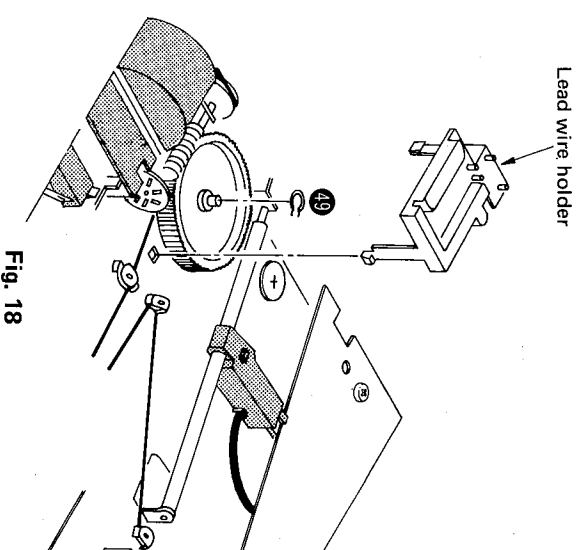

Fig. 18
2. Remove the lead wire holder. (See Fig. 18)
3. Remove the C-ring of the arm drive wheel and remove the drive wheel. (See Fig. 18 : 49)